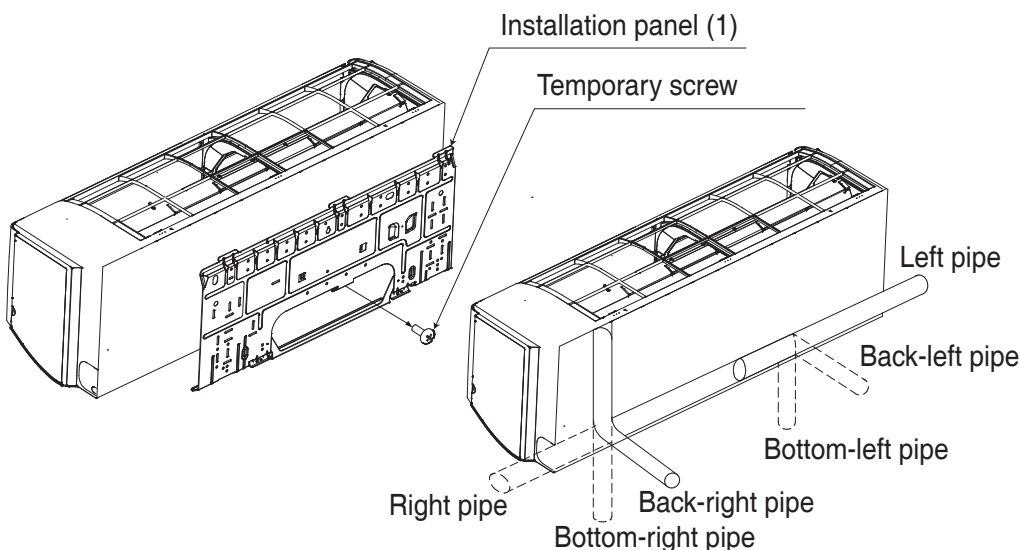

Fig. 3
(1) Open the piping through-hole.
- The refrigerant pipe and drain pipe can be passed out in one of 6 directions: left, bottom-left, back-left, right, bottom-right, and back-right. (Refer to Fig. 3)
- Using the paper pattern for installation (3), choose where to pass the piping out and open a through-hole ($\phi 80$) in the wall.
(2) Remove the installation panel (1) from the unit and attach to the wall.
(Refer to Fig. 3)